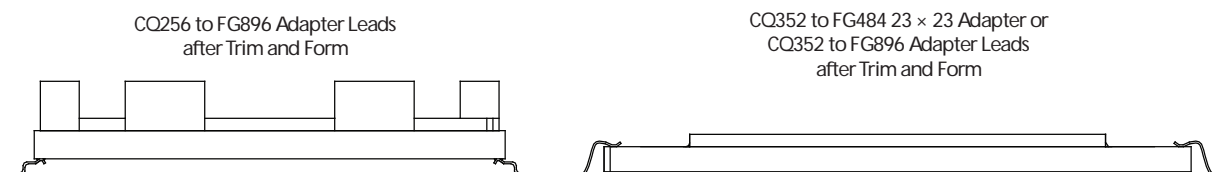

Figure 8 • CQ256 to FG896 Adapter Leads vs. CQ352 to FG896 Adapter or CQ352 to FG484 23x23 Adapter Leads after Trim and Form
2. The shape of the CQ256 to FG896 adapter leads after trim and form is different from those of the CQ352 to FG896 adapter and CQ352 to FG484 23x23. Refer to Figure 8.